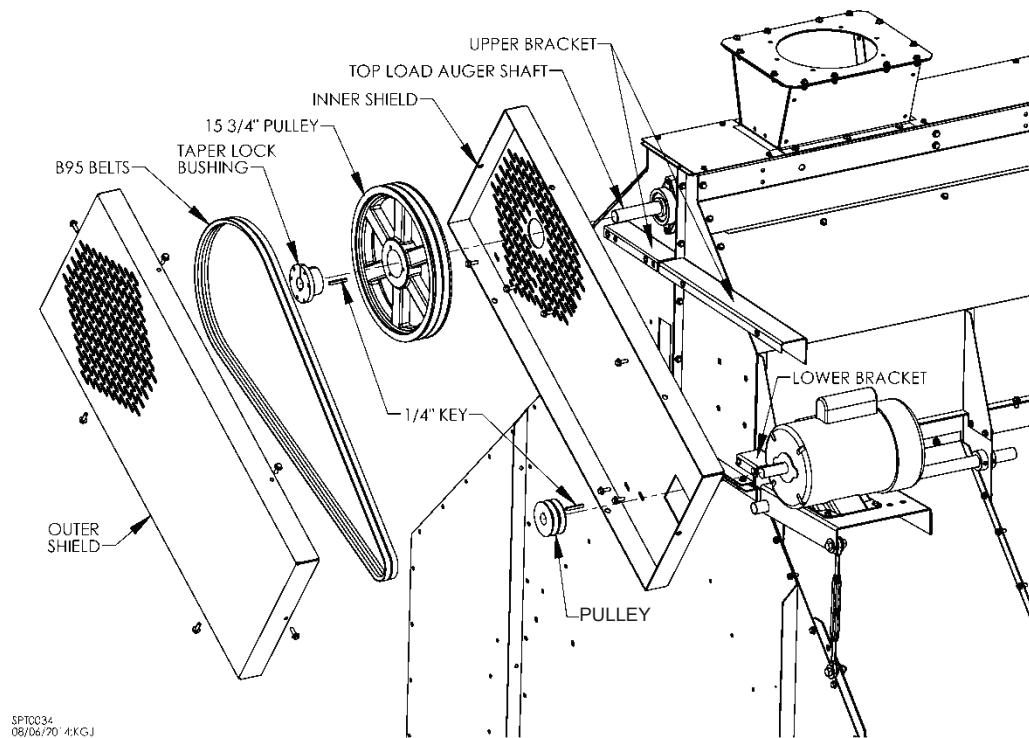

Fig. 2-30 – Top load auger components
Fig. 2-30 shows components of top load auger drive assembly. Follow Steps 1-12 to assemble.
8. Bolt inner shield to upper and lower brackets using 5/16" bolts, washers, and nuts. See Fig. 2-30.
9. Attach small pulley to motor shaft with a key and attach pulley to top load auger with a taper lock bushing. See Fig. 2-30. Use straight edge to align pulleys. Attach two B95 belts between auger pulley and motor pulley. Tighten turnbuckle to tighten belts.
11. Slide outer shield around inner shield and attach with six (6) 5/16 x 1" bolts. See Fig. 2-30.